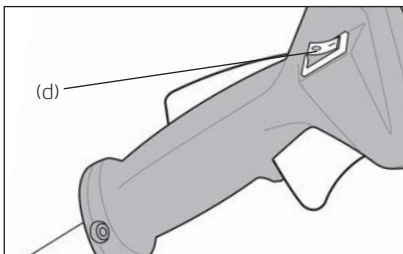

Fig 3 - Set the ignition switch (d) to the START (I) position.
- Set the ignition switch to the START (I) position (Fig 3 page 17).